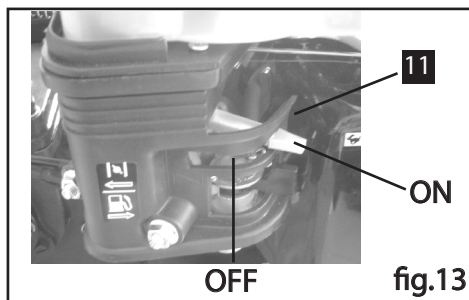

fig.13
2) Push the choke lever to the CLOSE position (Fig. 13)
5) If the choke lever is on the "CLOSE" position, please turn the choke lever to the "OPEN" position after engine runs 2 minutes. (Figure 13)
Push the Engine switch to the "OFF" position. (Figure 13)